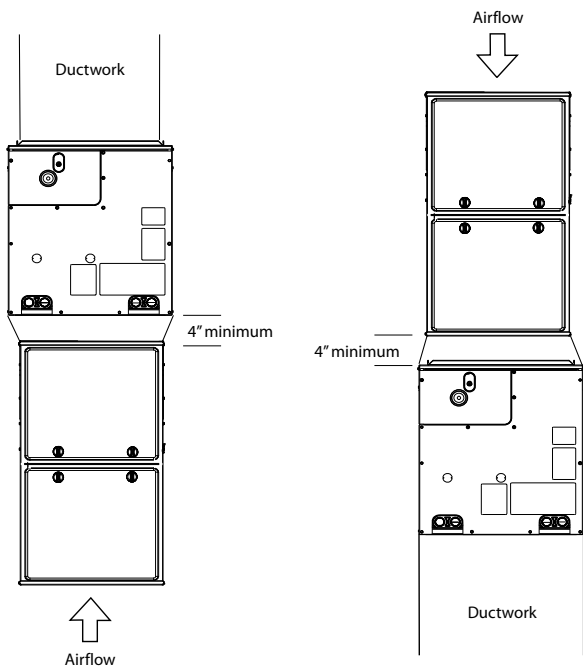

Fig. 3 – Adapter(s) Installation When Coil is Larger than Furnace (recommended) A200228B
3. When installing wider coil on narrower furnace, it is recommended to use a transition adapter (Fig. 3).